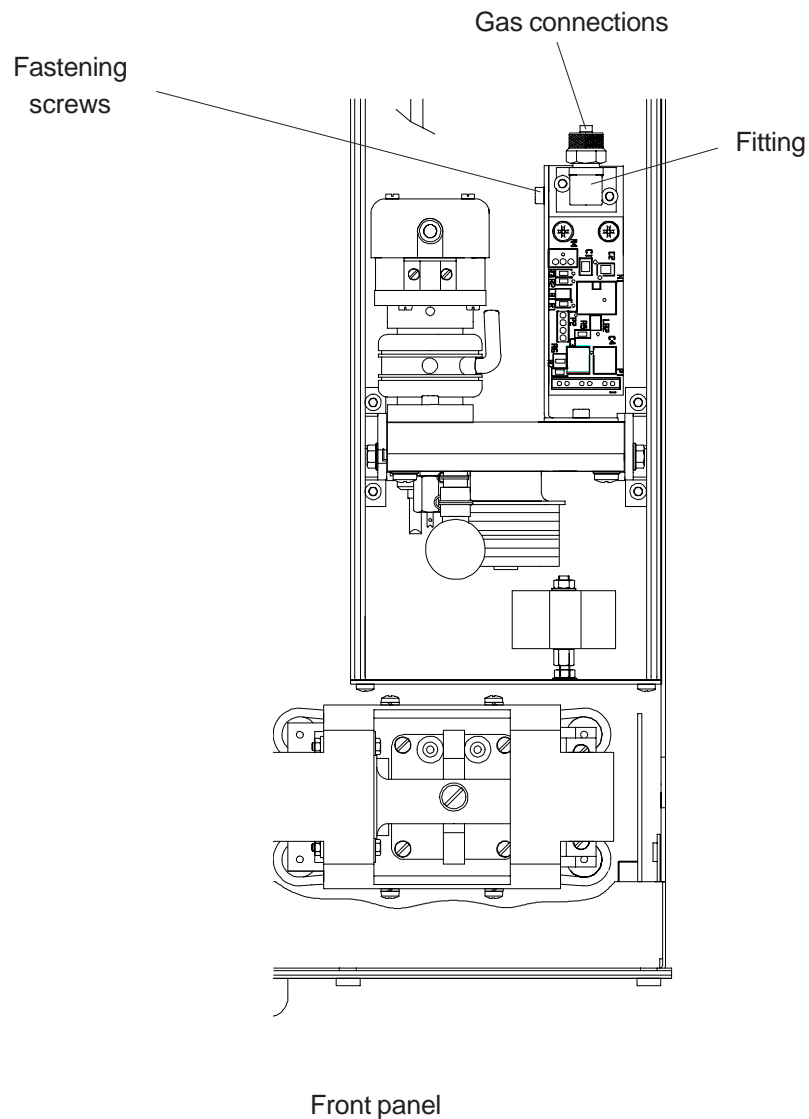

Fig. 23-4: Inside View BINOS® 100 2M
- Unscrew both fastening screws for the fitting (see Fig. 23-4) and remove the fitting completely with the sensor.
- Put the fitting with the (new) sensor onto the support, move to the stop and screw with the two fastening screws (see Fig. 23-4)